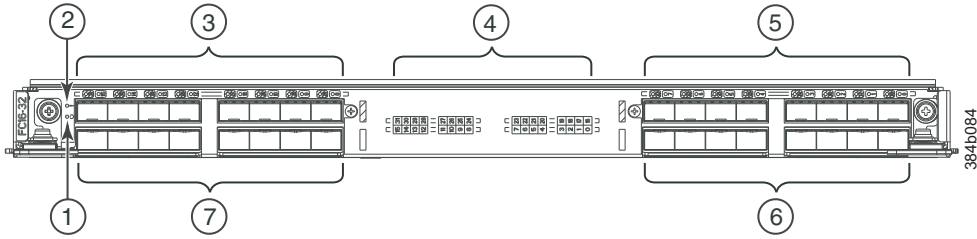

Figure 59. FC16-32 port blade
- Figure 59 on page 170 shows an FC16-32 port blade